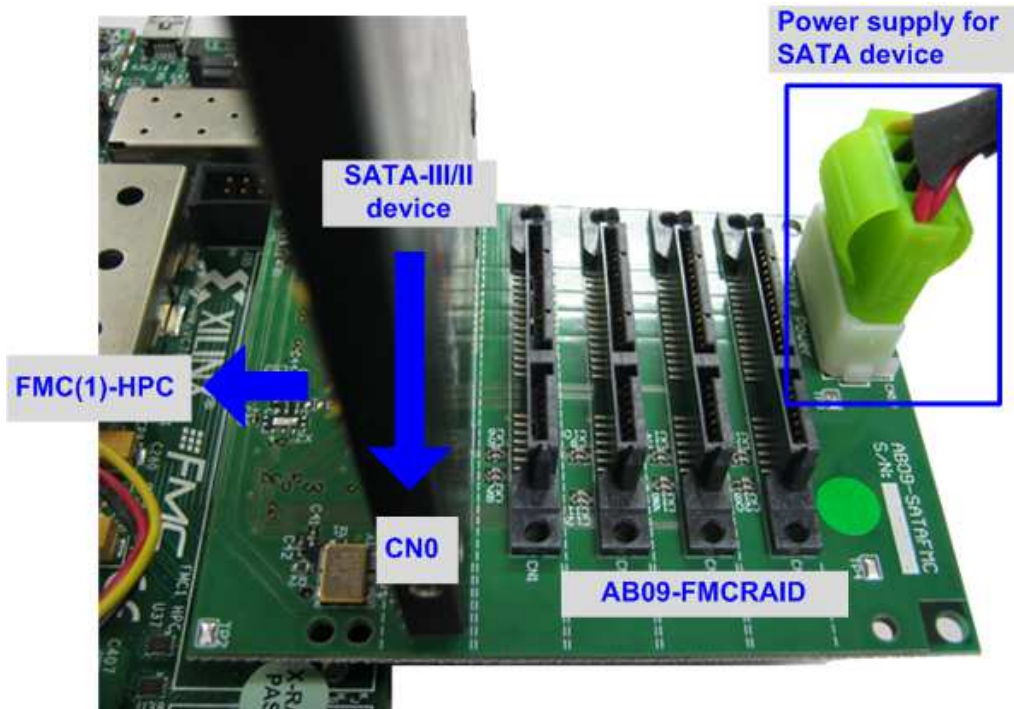

Figure 2-5 AB09-FMCRAID connection
- iii. Connect power to power connector on FMCRAID board.The connections are shown in Figure 2-5.